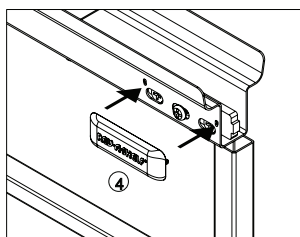

fig. 13
**15)** The first adjustment is the left to right tilt. By tightening the front screw and loosening the back screw, the door will tilt out on the left. The reverse is true if you loosen the front screw and tighten the back screw, the door will tilt out on the right. Once you get this tilt adjustment correct, tighten the center screw both top and bottom. Now snap on the logo cap (#4) to cover this hardware on the top. See figure 13.